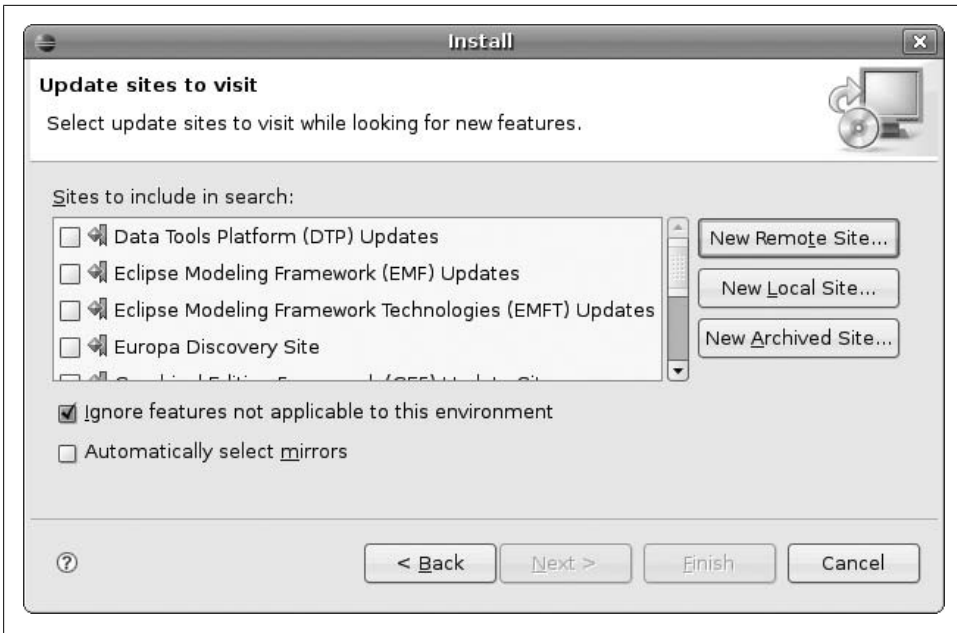

Figure 4-9. Eclipse Install dialog with update sites
3. In the Install dialog, click on the “New Remote Site...” button, which displays a list of update sites (Figure 4-9).